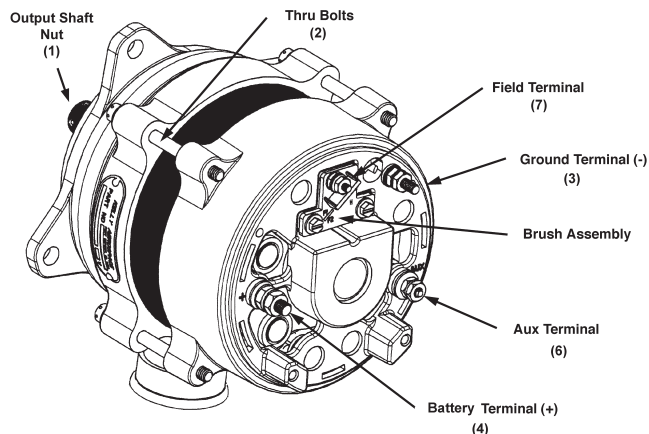

Figure 1 Brush Holder Location
10. Refer to Figure 1 & 2 to locate and remove the brush holder assembly. *(See material required section on page 4 for brush holder assembly and hardware part numbers.)*